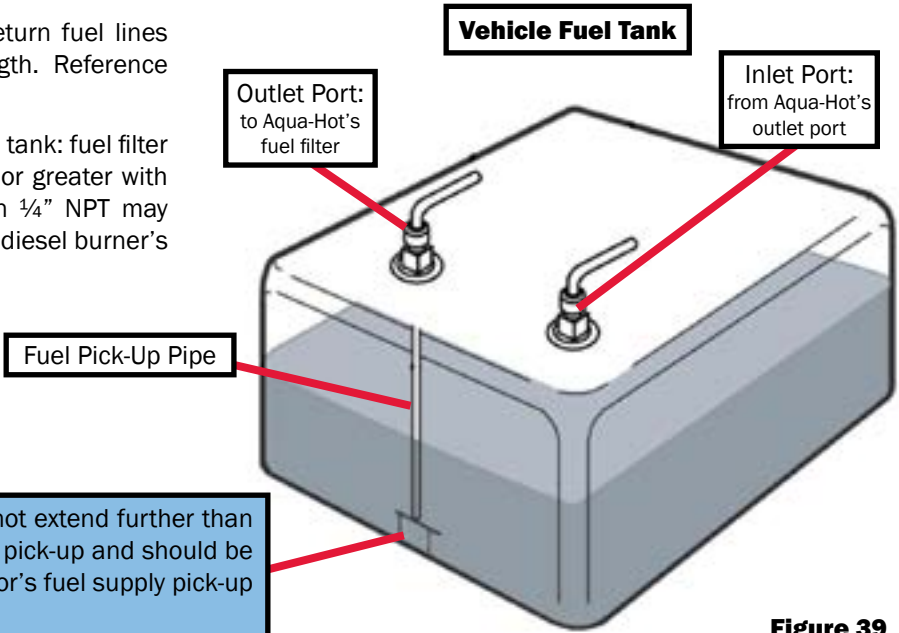

Figure 39
- The fuel tank should be equipped with a dedicated fuel pick-up pipe (outlet and inlet port). Reference Figure 39.